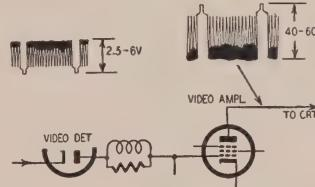

Fig. 4—Typical waveforms at the video amplifier grid and plate circuits.
2. Signal tracing with an oscilloscope In making bench checks for weak video, signal tracing with an oscilloscope is very effective. Check the waveform at the video detector load and measure the peak-to-peak voltage to determine if output at this point is below par (Fig. 4). Normally it is from 2.5 to 6 volts. Check the waveform at the plate of the last video amplifier, with the contrast control at the maximum clockwise position. The normal peak-to-peak voltage at this point is 40